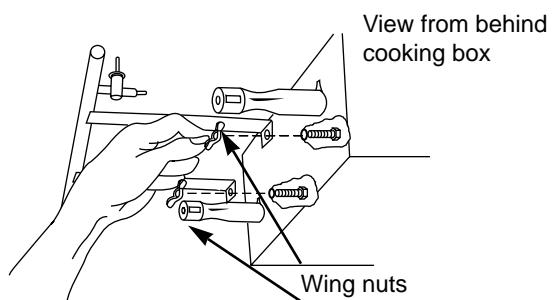

Figure 10
e) Remove the manifold bracket and unscrew the two wing nuts that hold the manifold to the cooking box. Pull the manifold and valve assembly out of the burners and carefully set it down. Figure 10.